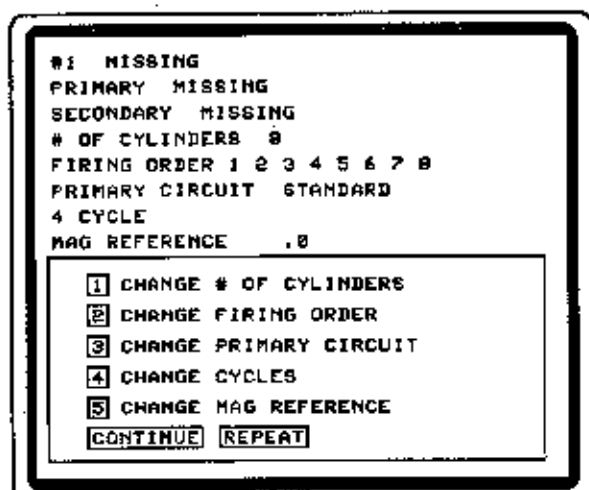

Figure 22
3. The Set-Up screen will appear (see Figure 22). This screen shows whether or not the leads are connected properly, and allows the operator to change various factors being monitored.